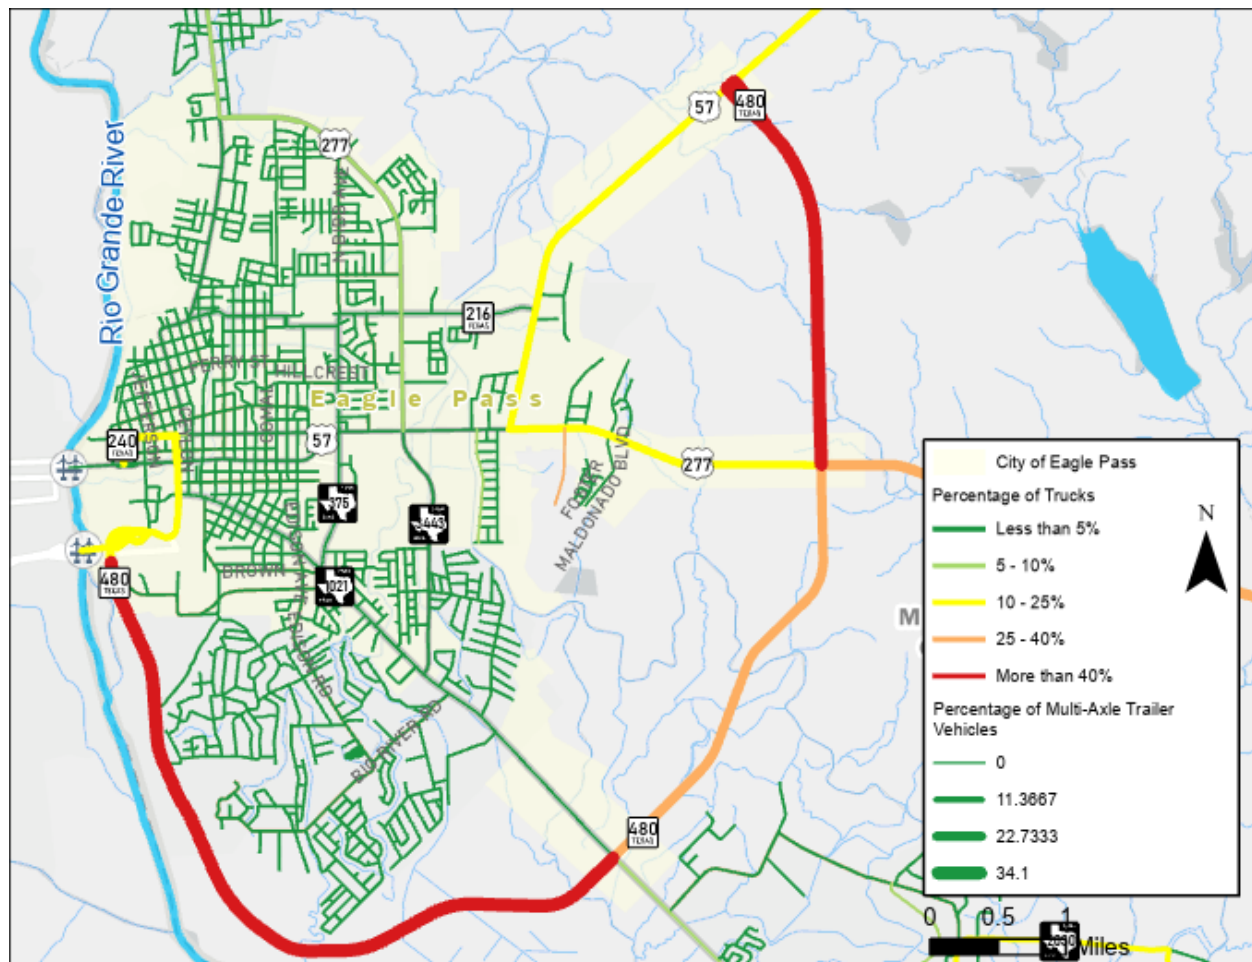

Figure 3: Proportion of Trucks in Traffic, Eagle Pass (2022)
are varied depending on the goods being transferred. However, natural gas and fuel oils make up most of the goods coming in from Mexico. These hazardous and flammable substances whose transportation is risky must be separated from the movement of passengers. **Figure 3** shows a map of roads in the City of Eagle Pass with percentage of trucks in the traffic volume.
- West Cluster/Downtown Eagle Pass: US 57 from Commercial St to Ceylon St. From **Figure 3**, it is known that roads in this cluster (Monroe St, W Main St, and Commercial St) are high truck usage roads, including a high number of multi-trailer-trucks.